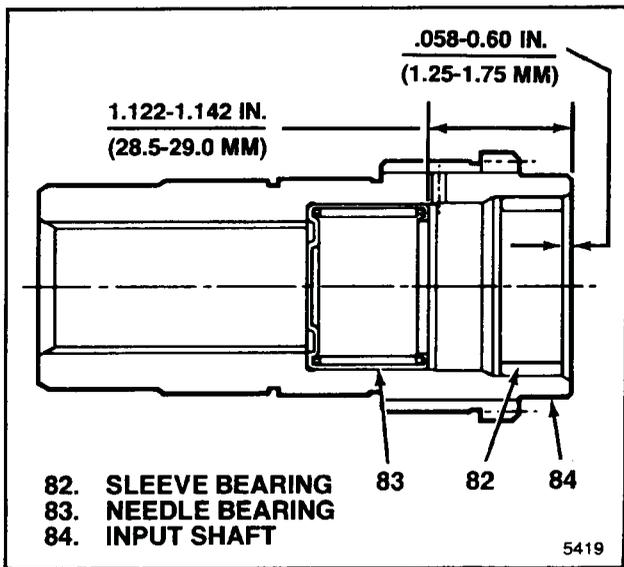
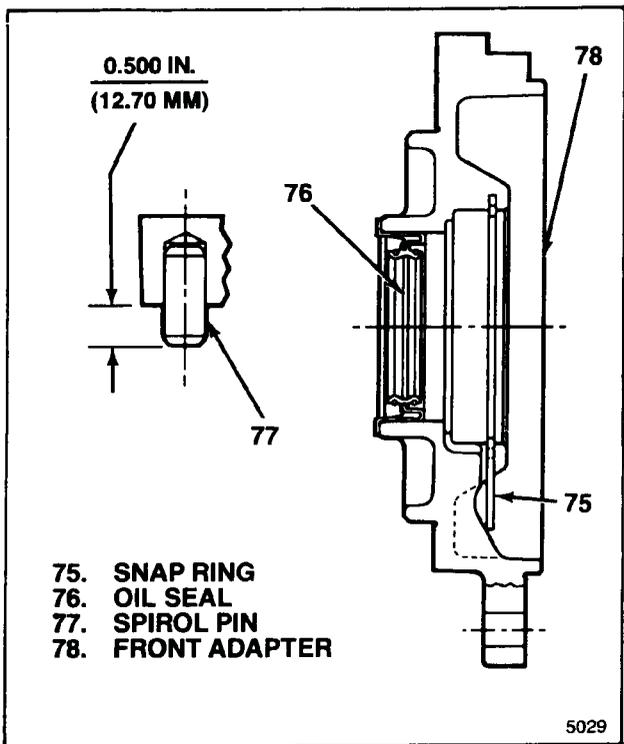

Figure 5-9. Input Shaft Assembly
Figure 5-10. Front Adapter Assembly
- a. Lay planet carrier assembly (90) on work bench with end having groove for retaining ring (87) up.
- b. Install sun gear (89) with hub end up. Rotate gears of planet carrier assembly (90) as required until sun gear is fully meshed.
- c. Align tabs and install thrust plate (88) into planet carrier assembly (90)
- d. Install retaining ring (87) to complete gear carrier assembly (86).
- e. If removed, position needle bearing (83) as shown in figure 5-9 and press into input shaft (84) to dimension shown. Press in new sleeve bearing (82) to dimension shown in figure 5-9) to complete input shaft assembly (81).
- f. Lift up gear carrier assembly (86) and install input shaft assembly (81) up through gear carrier assembly. Install thrust washer (85) and press bearing (80) over end of input shaft assembly. Retain bearing on input shaft with retaining ring (79) in shaft groove.
- g. If removed, press new pin (77) into front adapter (78) to dimension shown in figure 5-10.
- h. Position oil seal as shown in figure 5-10 and press into front adapter to dimension shown.
- i. Install snap ring (75) in groove in front adapter (78) with long ends of snap ring in adapter groove to complete front adapter assembly (74).
- j. Position front adapter assembly (84) with face that mates with transfer case (111) up. Support on wood blocks to provide clearance for input shaft assembly (81). Position assembled input shaft and carrier group (79 through 90) over front adapter with input shaft (84) down. Lower shaft and carrier group while expanding long ends of snap ring (75) until snap ring engages groove in OD of bearing (80).
- k. Apply continuous 1/16 in. (1.6 mm) bead of sealant (Neutral Cure RTV, Loctite 598) all around transfer case (111) mounting face for front adapter (78). Center sealant bead between edges of face. Circle bolt holes.